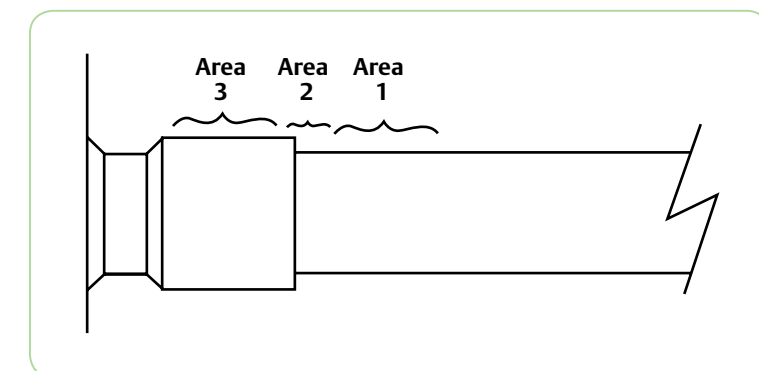

Figure 1. Scroll Tube Brazing
5. Apply heat in Area 1. As tube approaches brazing temperature, move torch flame to Area 2 (See Figure 1).
4. Heat tube uniformly in Area 1, moving slowly to Area 2. When joint reaches brazing temperature apply brazing material (See Figure 1).